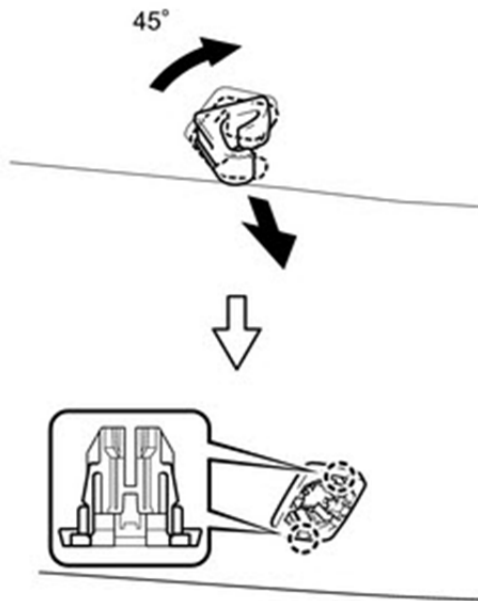

Figure 4
- 4. Turn the LH visor holder approximately 45° and pull it out as shown in the illustration. See figure 4.